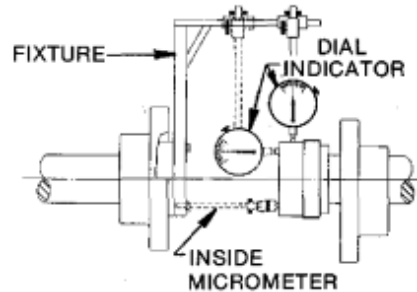

FIGURE 3. TESTING ALIGNMENT, DIAL INDICATOR
- (d) An alternate test for parallel and angular alignment may be made with a dial indicator mounted as shown in Figure 3. Proceed as follows:
- (1) Scribe the index lines on the coupling halves (as shown) or mark where the indicator point rests.
- (2) Set indicator dial to zero.
- (3) Slowly turn **BOTH** coupling halves so that index lines match, or indicator point is always on the mark.
- (4) Observe dial reading to determine whether pump or driver needs adjustment.
- (5) Acceptable parallel and angular alignment occurs when total indicator reading. (complete